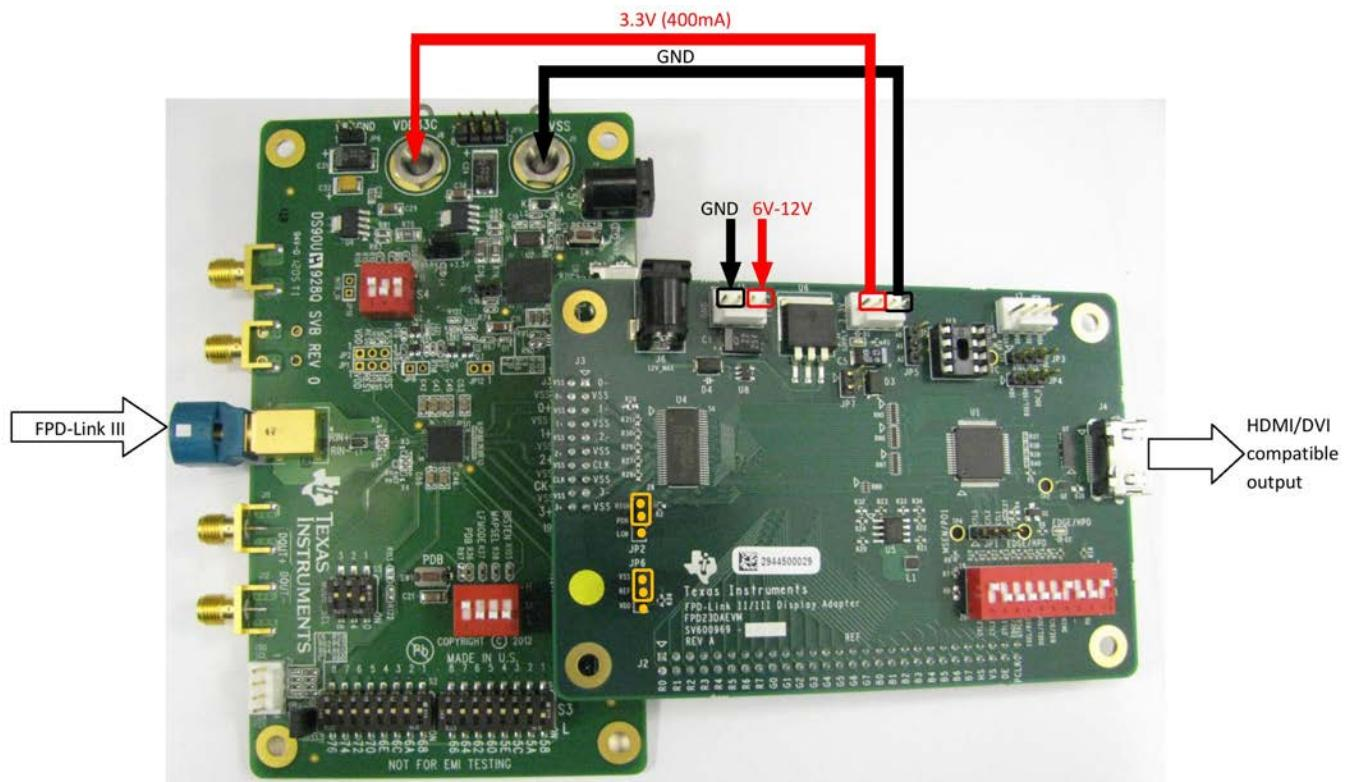

**Figure 2-1. FPD23DAEVM-001 with Parallel LVCMOS input**
1. Verify the factory settings for the adapter board as shown in Figure 2-2 and Figure 2-1.
FPD23DAEVM can be powered up by 6V(min) to 12V(max) DC supply as detailed in Figure 2-2 and Figure 2-1. **Apply power to only ONE of these ports: J1 or J6.**